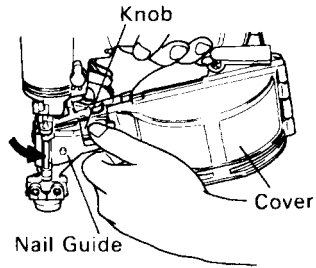

Fig. 10
- (4) Closing the cover and nail guide.
- Place your finger on the nail guide and knob and push the knob downward. While pressing down the linked nails, completely close the nail guide (See Fig. 10). This completes loading of nails.